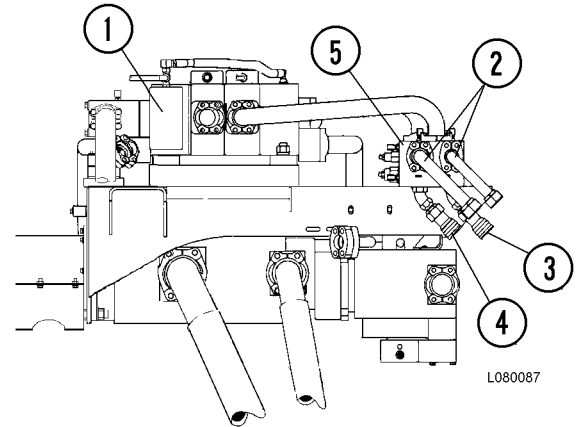

FIGURE 30-1. PUMP MODULE, HOSE HOOKUP
In the following example, Figure 30-1 illustrates a typical hookup from the good truck. The disabled truck may be the same truck model or a different Komatsu truck model.
1. With the good truck parked as close as possible to the disabled truck, attach a hose from the **power up** quick disconnect (4, Figure 30-1) to the **power down** circuit of the disabled truck. The hose must be rated to withstand 17,000 kPa (2500 psi) or greater pressure.
2. Connect another hose from the **power down** quick disconnect (3) to the **power up** circuit of the disabled truck.
*NOTE: If both trucks are the same model, the hoses will be installed at the quick disconnects shown in Figure 30-1 and **will be crossed** when connected.*